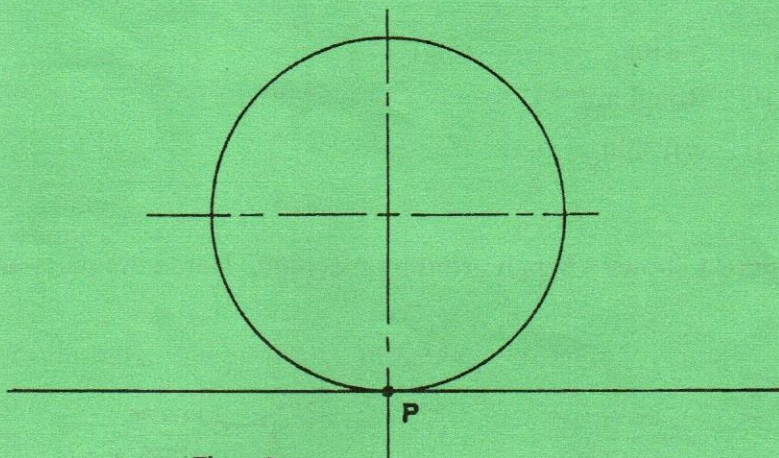

Fig. 2
5. (a) Figure 2 shows a circular wheel of 40 mm diameter with point P attached to its periphery. The wheel rolls without slipping along a straight line while remaining on the same plane. Plot the path of point P for a full revolution of the wheel. (10 marks)